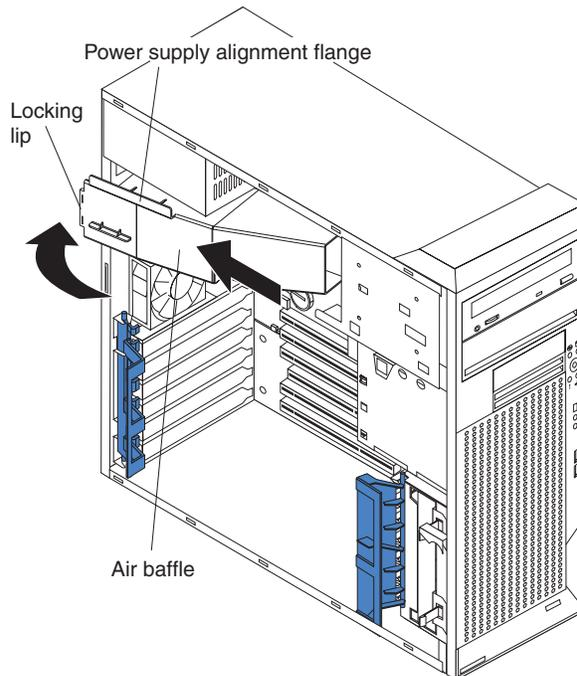

Figure 27. Installing the baffle
5. Remove the air baffle (see Figure 27 on page 114 for the location of the air baffle).